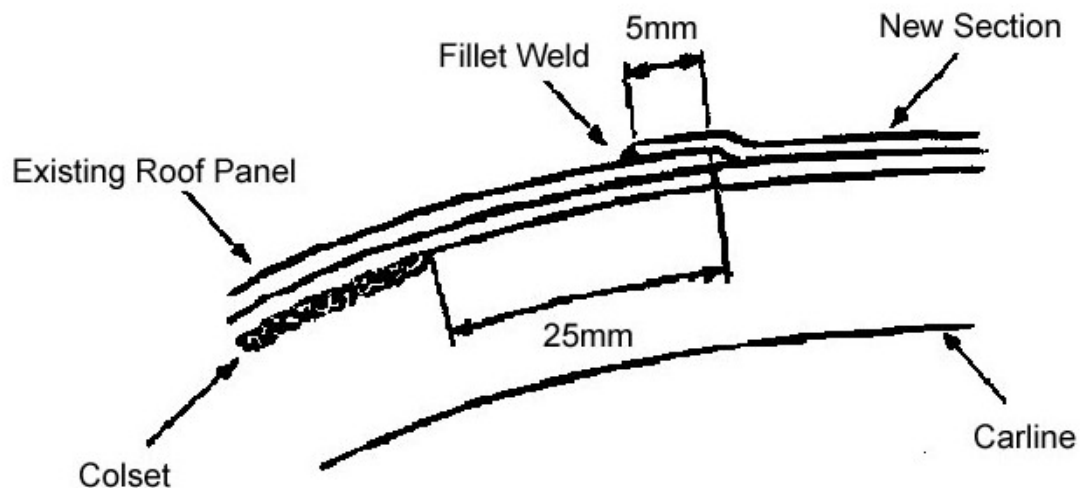

Figure 3: Local Shaping of New Roof Panel to fit Carline
- 1.4 Manufacture a new panel to overlap the existing panel all round by 5mm. If hole extends over a roof corrugation, the panel is to be shaped to suit (see Figure 3).
- 2.7 Plug weld the 2mm gap between the two adjacent panels to the carline (see Figures 3, 4 and 5).